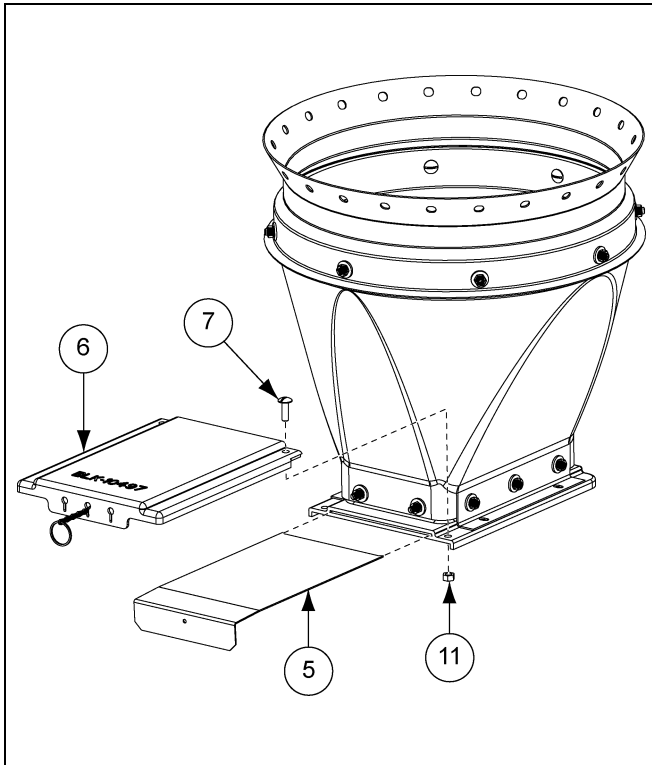

Figure 4
Insert the slide into the transfer plate. The slide must be in its operating position prior to attaching the slide shield to the transfer plate. Use two (2) 5/16"-18 x 1" truss head tap bolts to mount the slide shield. (See Figure 4.)